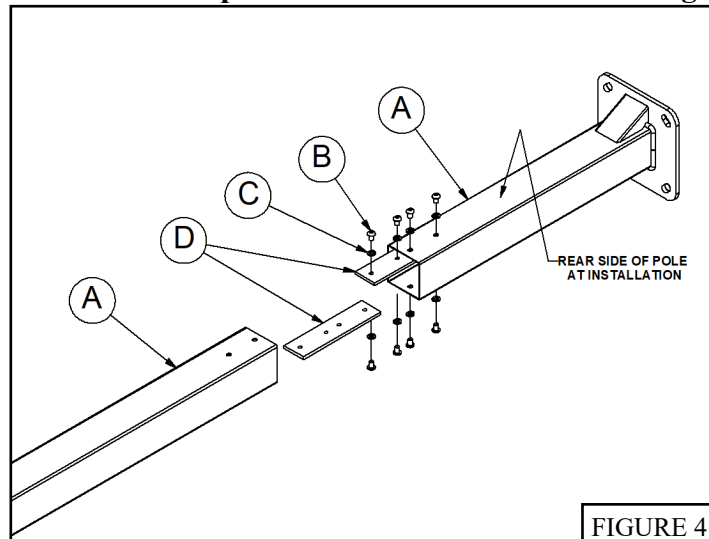

FIGURE 4
- 2b. Your pole is shipped in 2 sections reducing freight costs and handling difficulty and increasing pole rigidity. The lower section has a 12" square pedestal base. Lay the two different *Pole Sections* (A) end to end with the drilled holes adjacent to each other. See Figure 4.
- 3b. Using the $1/2"$ *Button Head Screws* (B), $1/2"$ *Lock Washers* (C), and $5/16"$ *Hex Key* (FF) loosely attach two *Pole Connector Bars* (D) to the inside of the end of the lower *Pole Section* (A). See Figure 4.
- 4b. Slide the other *Pole Section* (A) over the two *Pole Connector Bars* (D) up against the partially assembled *Pole Section* (A). See Figure 4.
- 5b. Using the remaining $1/2"$ *Button Head Screws* (B) and $1/2"$ *Lock Washers* (C), attach the upper *Pole Section* (A) to the *Pole Connector Bars* (D). See Figure 4.
- 6b. Tighten all $1/2"$ *Button Head Screws* (B) only when the two *Pole Sections* (A) fit tightly together. **If you have access to a torque wrench, torque to 75 foot pounds or get as tight as possible by hand.**